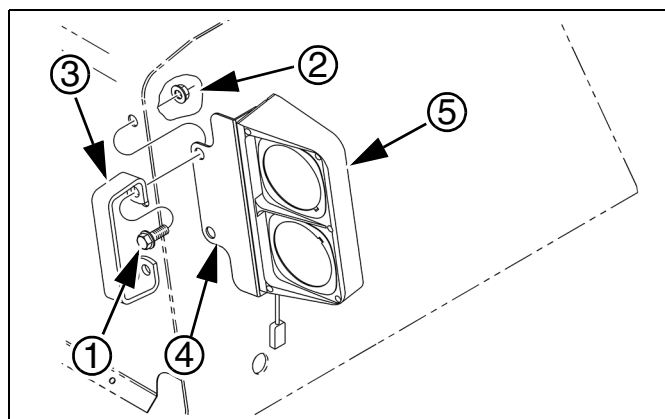
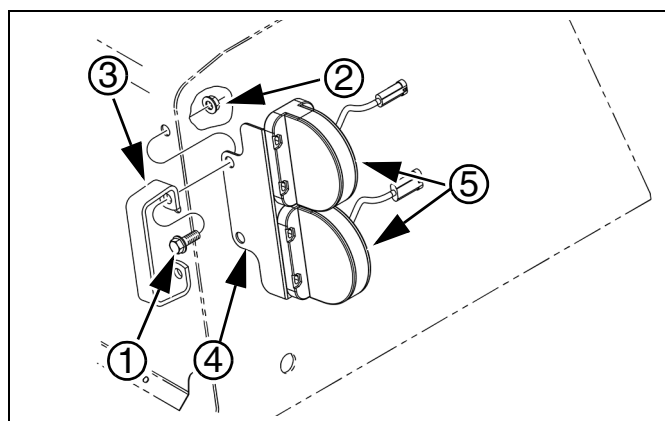

Figure 2:
Figure 3:
**Refer to Figure 2 and Figure 3.**
2. On the left and right sides of the machine, remove the hex flange bolts (1) and hex flange nuts (2) to remove handles (3) and light bracket (4) and light (5) assemblies. Keep the parts and hardware for later installation.